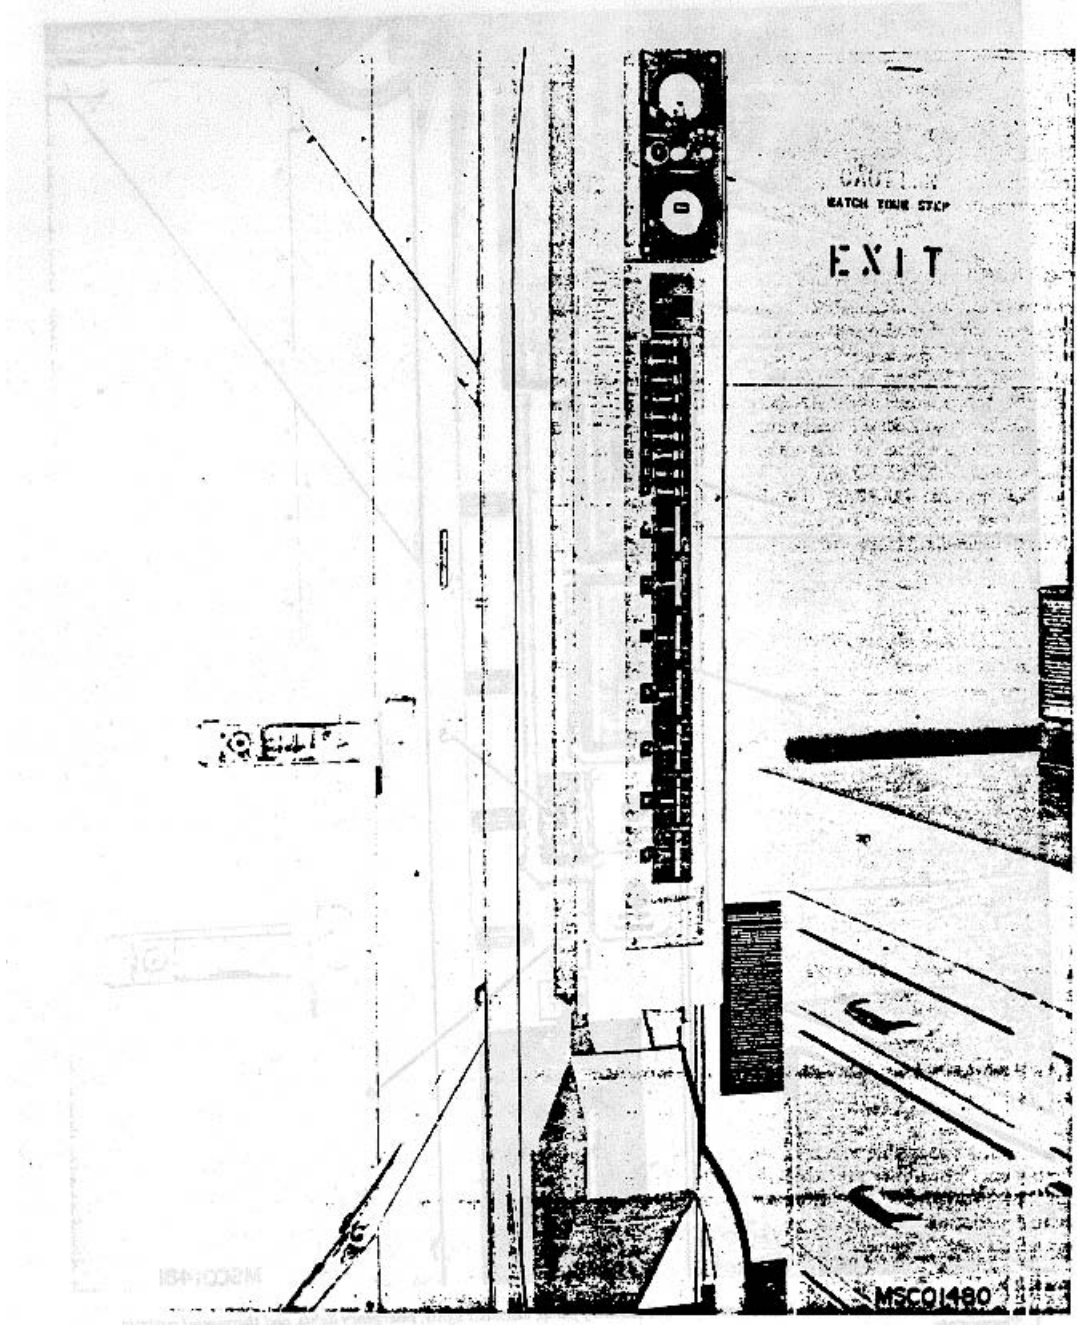

Figure 1-1. Circuit breakers for circuits within the van
a. Electrical Description. The expansible van is wired to provide 208 volts ac, 400 Hz 3 phase; 120 volts ac, 400 Hz single phase; and 120 volts ac, 60 Hz (see figures 1-1 and 1-2).